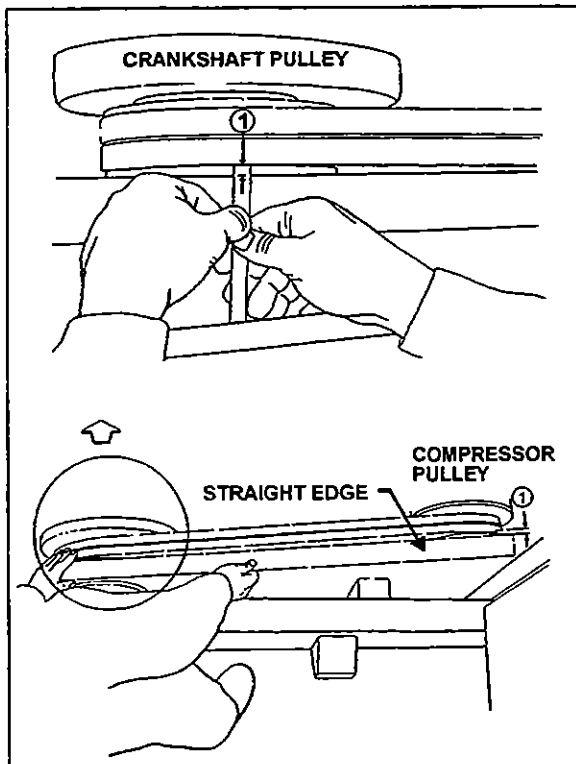

Figure 21
2. Check the distance between each extremity of straight edge (1. Fig. 21) and the first drive belt. If they are different, loosen the compressor support bolts and with a hammer, knock support to slide it in order to obtain the same distance, and tighten the bolts.
2. Check the distance between each extremity of straight edge (1, Fig. 21) and drive belt. If they are different, loosen the pillow block compressor bolts and with a hammer, knock compressor pillow block to slide it in order to obtain the same distance, and tighten the bolts.